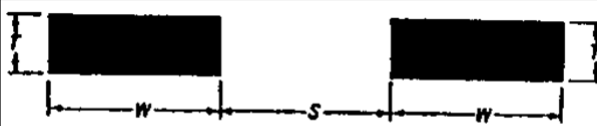

Figure E-6 Cross section of coplanar lines
(6) Coplanar lines (Figure E-6) have shape factor